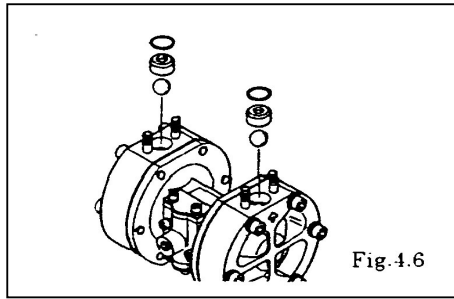

Fig.4.6
- Remove the O-ring, ball guide, ball and valve seat. [Fig. 4.6]